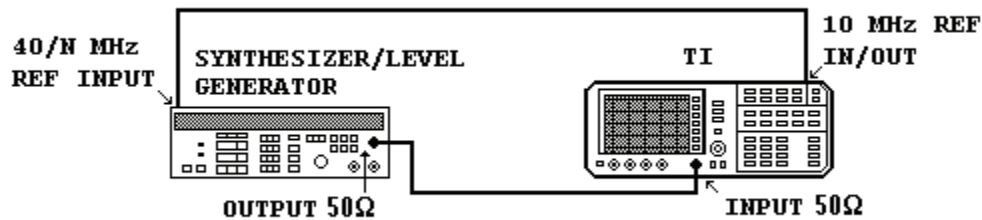

Figure 5. Frequency response - equipment setup.
(14) Repeat technique of (8) through (12) above setting synthesized signal generator frequency and TI [**CENTER FREQ**] to 13, 12.5, 12, 11.5, 11, 10.5, 10, 9.5, 9, 8.5, 8, 7.5, and 7 GHz. Measuring receiver indication will be within ± 3 dB of indication recorded in (7) above.
(15) Repeat technique of (8) through (12) above setting synthesized signal generator frequency and TI [**CENTER FREQ**] to 6.46, 6, 5.5, 5, 4.5, 4, and 3.5 GHz. Measuring receiver indication will be within ± 2.5 dB of indication recorded in (7) above.
(16) Repeat technique of (8) through (12) above setting synthesized signal generator frequency and TI [**CENTER FREQ**] to 2.9 GHz, 2 GHz, 1.5 GHz, 1 GHz, 500 MHz, 100 MHz, 50 MHz, and 20 MHz. Measuring receiver indication will be within ± 1.5 dB of indication recorded in (7) above.
(17) Set synthesized signal generator frequency to 10 MHz.
(18) Repeat (9) above.
(19) Press TI **FREQUENCY** key then [**CENTER FREQ**] to 10 MHz.
(20) Press TI **SPAN** key then [**SPAN WIDTH**] to 10 kHz.
(21) Press **MARKER PEAK SEARCH** key.
(22) Adjust synthesized signal generator level output for a TI **MKR** amplitude indication between -9.95 and -10.05 dBm.
(23) Measuring receiver indication will be within ± 1.5 dB of indication recorded in (7) above. Record measuring receiver indication.
(24) Connect equipment as shown in figure 5.